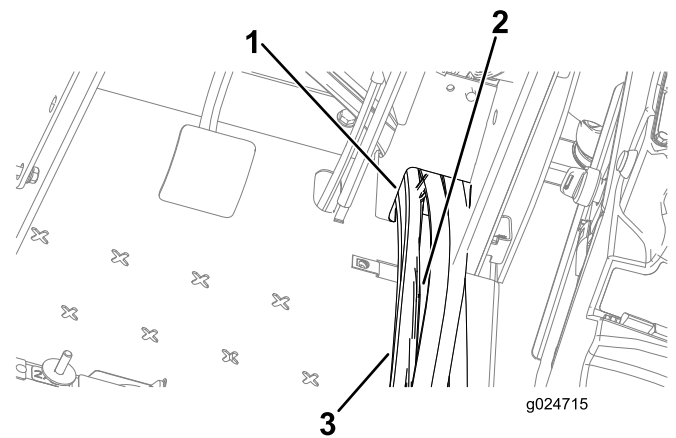

Figure 32
1. Route the wire harness along the hoses in the floor-pan opening (Figure 32).